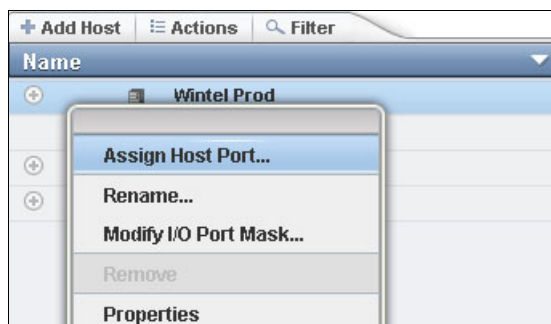

Figure 11-57 Assign Host Port
1. From the Hosts window, select the host to which to assign the host port. Either right-click, or from the **Actions** tab, select **Assign Host Port**, as shown in Figure 11-57.